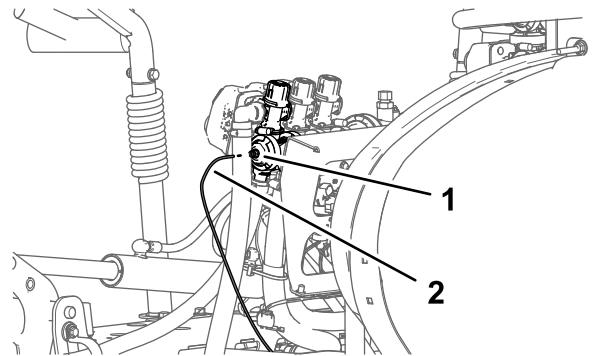

Figure 27
1. Press in the collar for the tube coupler in the end cap of the right boom-section valve (Figure 27).
2. Pull the pressure-sense tube for the dash gauge out of the tube coupler (Figure 27).